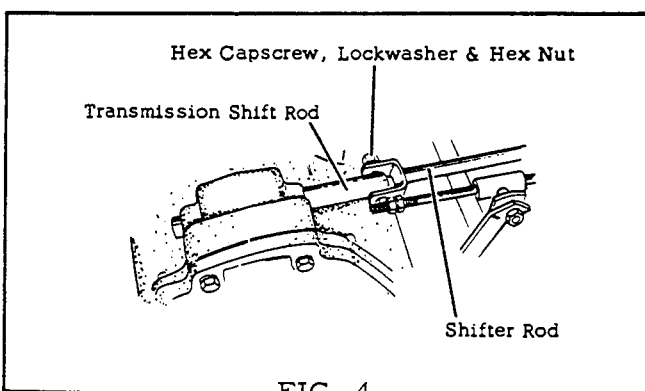

FIG. 4
5. Attach the clevis of the shifter rod to the transmission shift rod, using hex capscrew, lockwasher, and hex nut as shown in Fig. 4.